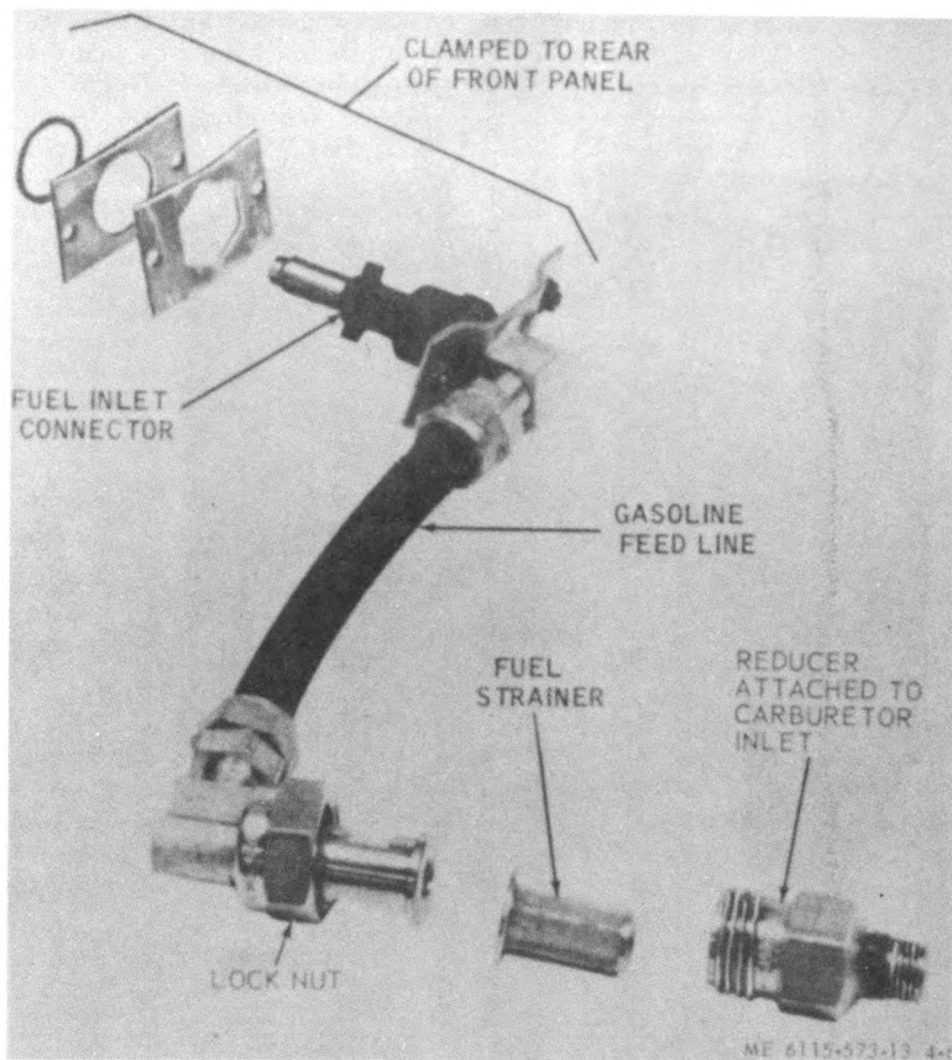

Figure 4-6. Fuel strainer and gasoline feed line, removal and installation.
a. Removal (fig. 4-6).
(1) Disconnect gasoline feed line from reducer by loosening lock nut. Carefully remove fuel strainer from reducer.
(2) Remove gasoline feed line from control panel by removing the two screws.